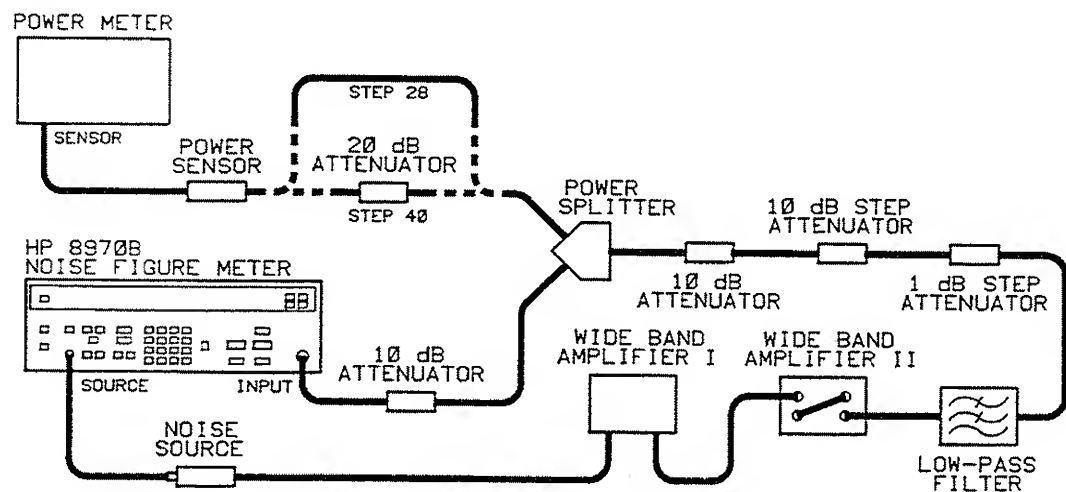

Figure 4-4. Gain Measurement Uncertainty Test Setup
28. Connect the equipment as shown in Figure 4-4.